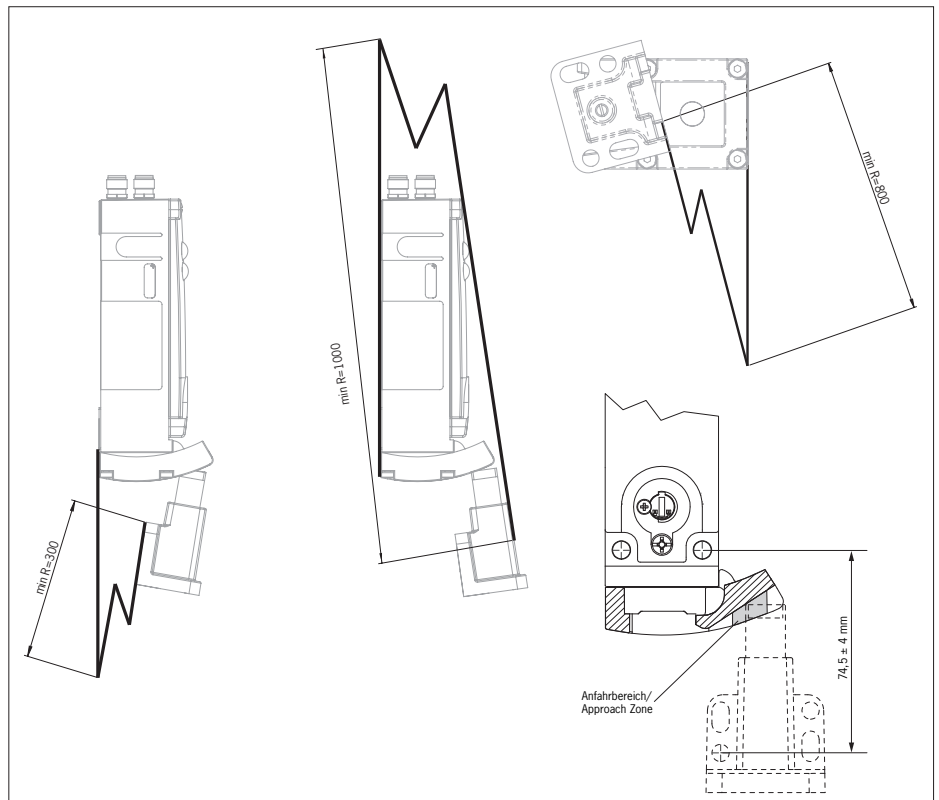

Figure 7: Door radii and approach zone
- ▶ Observe the min. door radii (see Figure 7).
- ▶ Ensure that the actuator contacts the ramp in the designated area (see Figure 7). Marks on the ramp specify the prescribed approach zone.